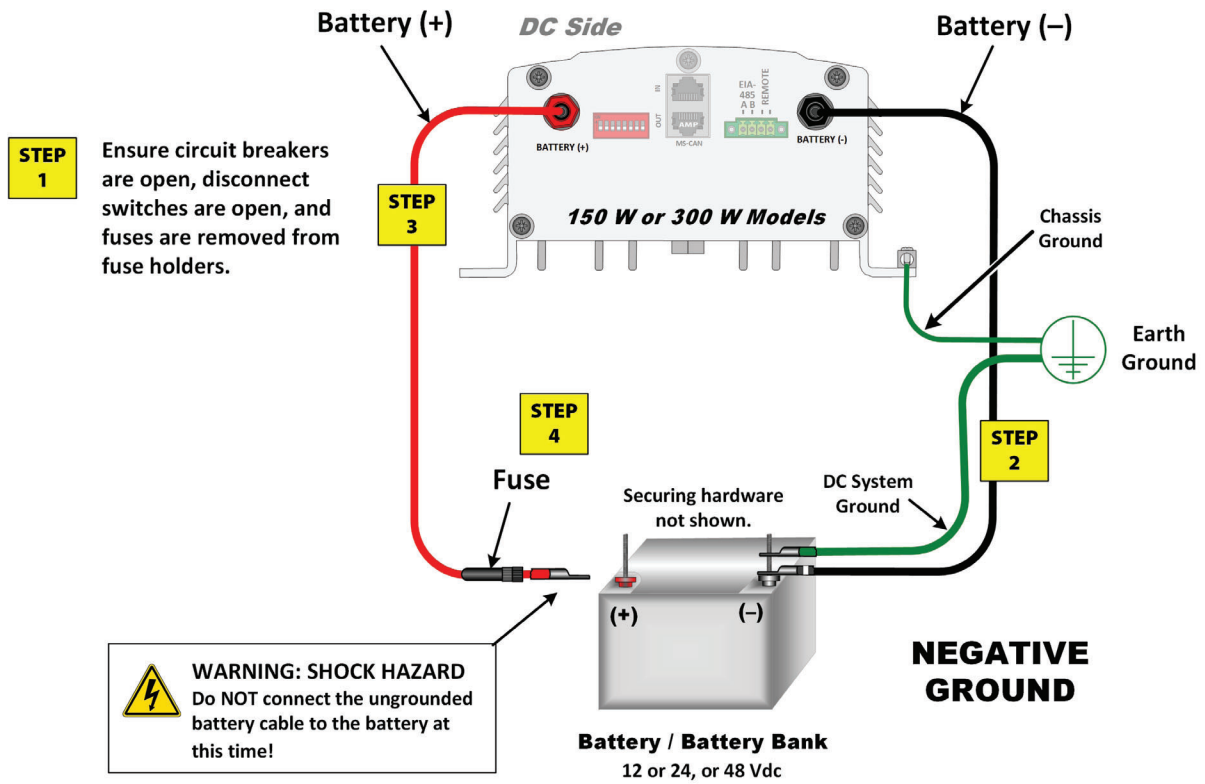

Figure 17: DC Connections on 150 W & 300 W Models with Negative Grounding
- **For 150 W & 300 W Models:** See Figure 17 on page 25